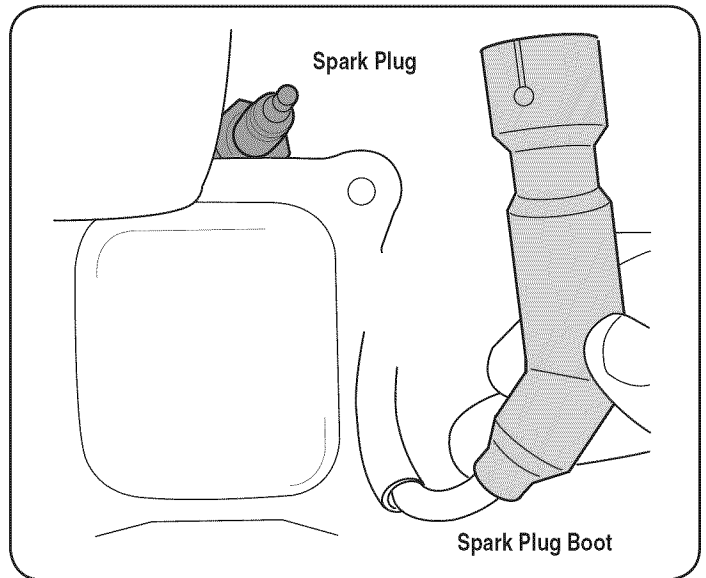

Figure 13
- Remove the spark plug boot and use a spark plug wrench to remove the plug. See Figure 13.